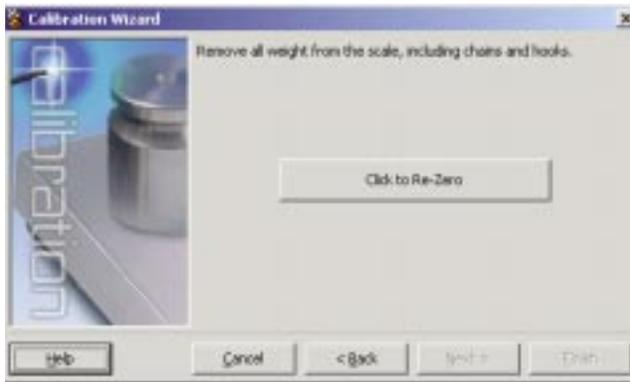

Figure 4-8. *iRev Rezero Display*
- If the option for chains or hooks was selected in step 3, the Rezero display is shown (see Figure 4-8). Remove all weights from the scale, including chains or hooks. Press the *Re-Zero* button to calibrate the zero offset.